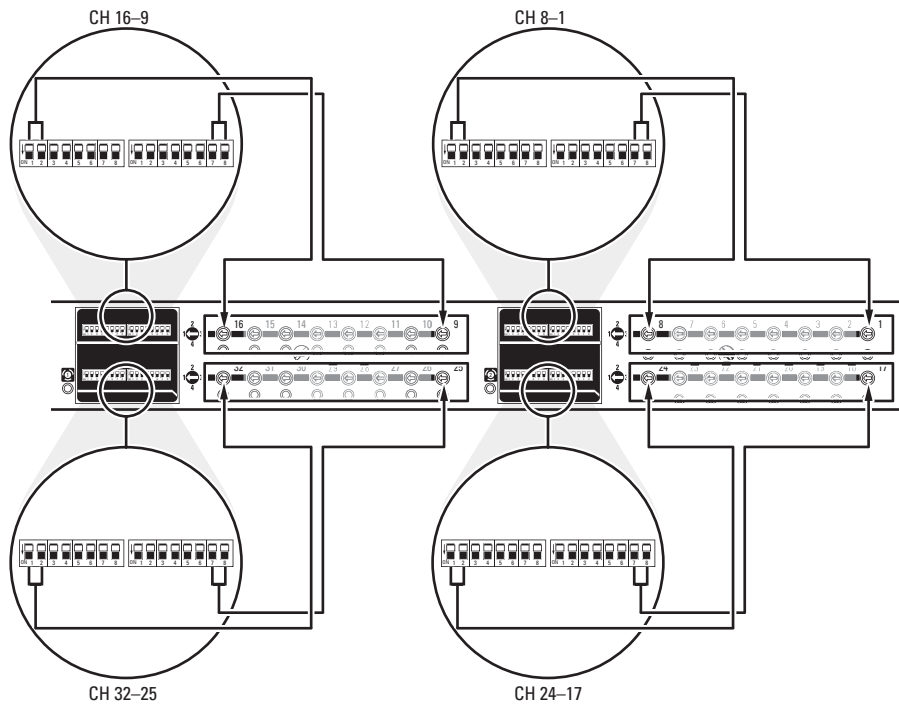

Figure 9. DIP Switch Locations with Front Panel Removed (32-channel model shown)
- c. Refer to Table E on page 14 to set the DIP switches to obtain the desired video quality. Refer to Figure 9 on page 14 for the arrangement of the DIP switches on the front panel.
For the best picture quality, adjust the DIP switch settings. Refer to Figure 9 and Table E, and then complete the following steps:
4. Refer to Table E to set the DIP switches to obtain the desired video quality. Refer to Figure 9 for the arrangement of the DIP switches on the front panel.